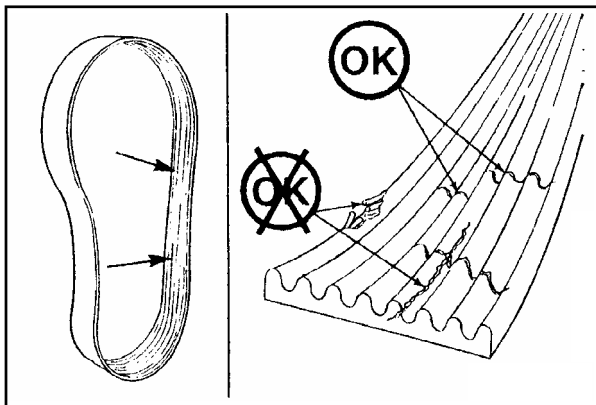

FIG 7.54
**INSPECTION** - Visually inspect the belt daily (fig. 7.54). Check the belt for intersecting cracks (fig. 7.54). Transverse (across the belt width) cracks are acceptable. Longitudinal (direction of belt length) cracks that intersect with transverse cracks are not acceptable. Replace the belt if it is frayed or has pieces of material missing.